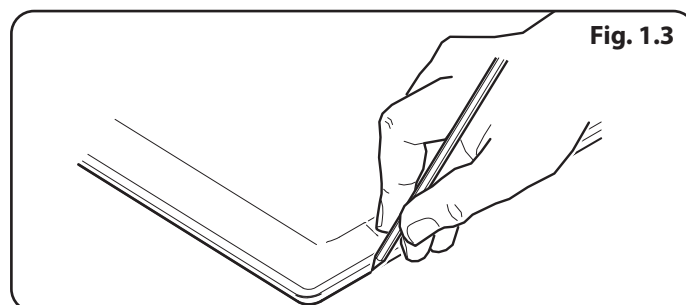

Fig. 1.3
1. Place the sink upside down on the worktop. Position the sink on the worktop as required. Make sure the cabinet framework will clear all parts of the sink. Using a soft, sharp pencil draw around the sink as accurately as possible (**Fig. 1.3**). Remove the sink.